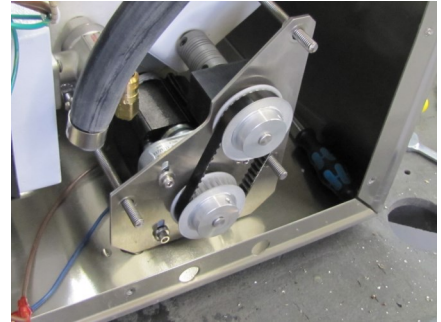

Figure 25
25. Replace the agitator motor assembly that was removed in step 6. See Figure 25.